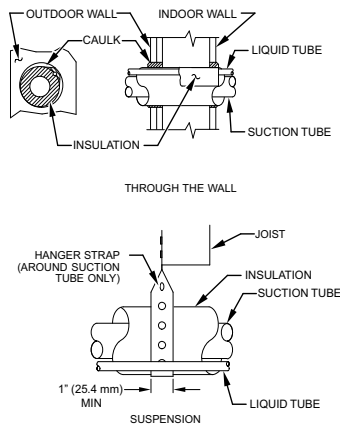

Fig. 1 – Connecting Tubing Installation
- When passing refrigerant tubes through the wall, seal opening with RTV or other pliable silicon-based caulk (see Fig. 1).
- Do not suspend refrigerant tubing from joists and studs with a rigid wire or strap which comes in direct contact with tubing (see Fig. 1).
- When necessary, use hanger straps which are 1 in. (25 mm) wide and conform to shape of tubing insulation (see Fig. 1).